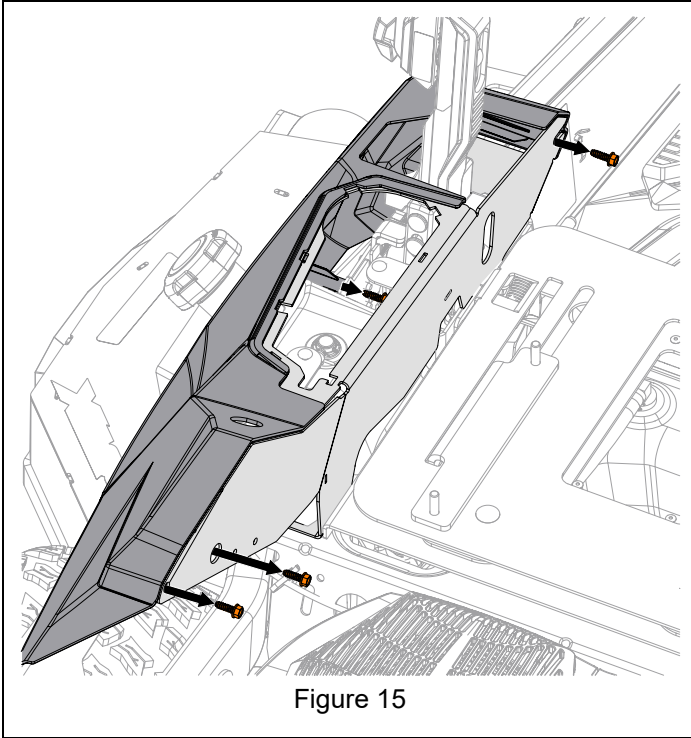

Figure 15
3. Remove four tapping screws from left fender. See Figure 15.
1. Reinstall fender and secure with previously removed hardware. See Figure 15.